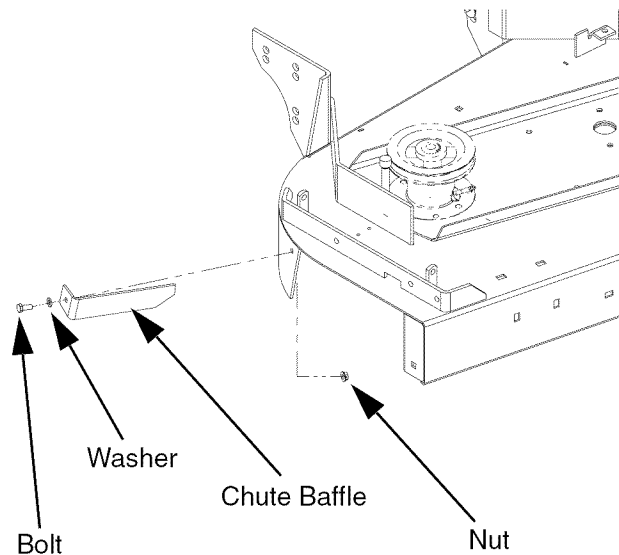

Figure 8
- Remove chute baffle from the mower deck. This part will be reinstalled in the next step with the new baffle and hardware provided. See Figure 8.